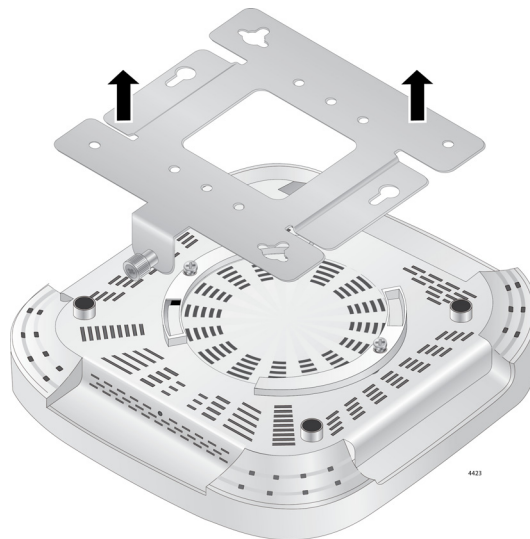

Figure 7. Removing Mounting Bracket From Access Point
4. Slide the mounting bracket forward and temporarily remove it from the access point chassis so the bracket can be independently mounted on the ceiling or wall in the next steps. Refer to Figure 7.